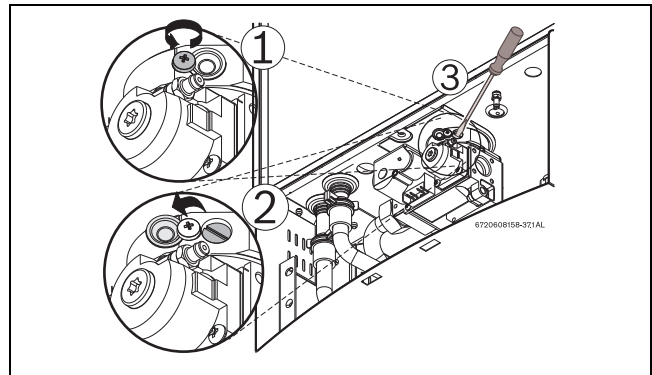

Fig. 73 Adjusting P1 CO₂ level
- ▶ Loosen yellow painted Phillips screw (1) and cover should rotate down (2) revealing a recessed brass slotted screw. Fig. 73.